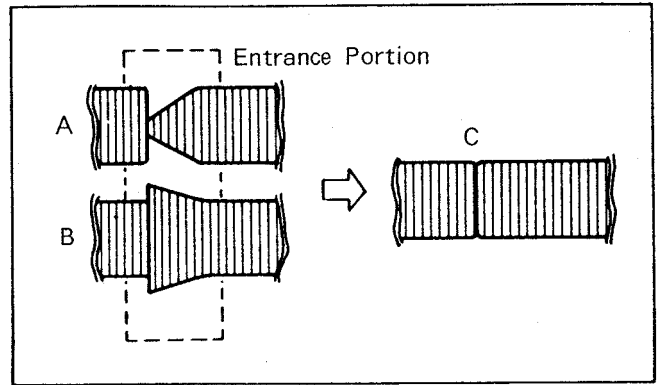
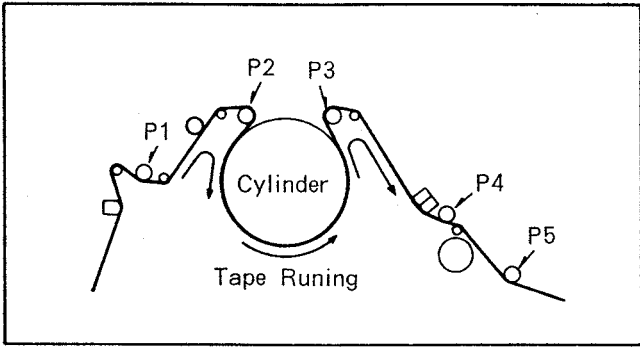

Fig. M9
Fig. M12 Loading of post
4. If the RF envelope appears like example "A" or "B" in Fig.M9, then adjustment of tape guide post (P2 : Entrance) is necessary.
5. Adjust the tape guide post (P2) with the post adjustment screwdriver so that the RF envelope waveform at the entrance portion becomes flat as shown "C" in Fig.M9. (See Fig.M12 also)